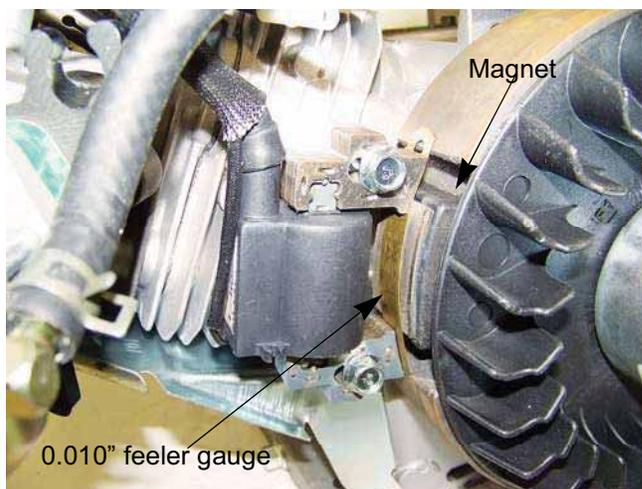

Figure 7.12
4. Rotate the flywheel so that the magnets align with the legs of the module while holding the feeler gauge in place. See Figure 7.12.